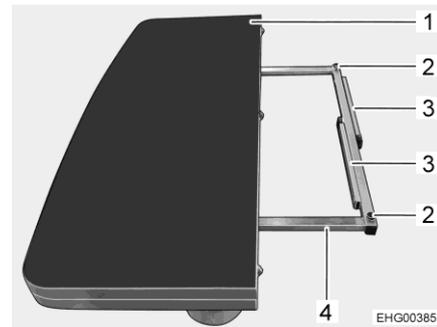

Fig. 95 Table top, folded
- Pull out the table top frame (Fig. 95,4).
- Fold over table top half (Fig. 95,1) and set it down on table top frame.
- If necessary, align the height of the table top using the two knobs (Fig. 95,2).
- Fold out both support legs (Fig. 95,3).